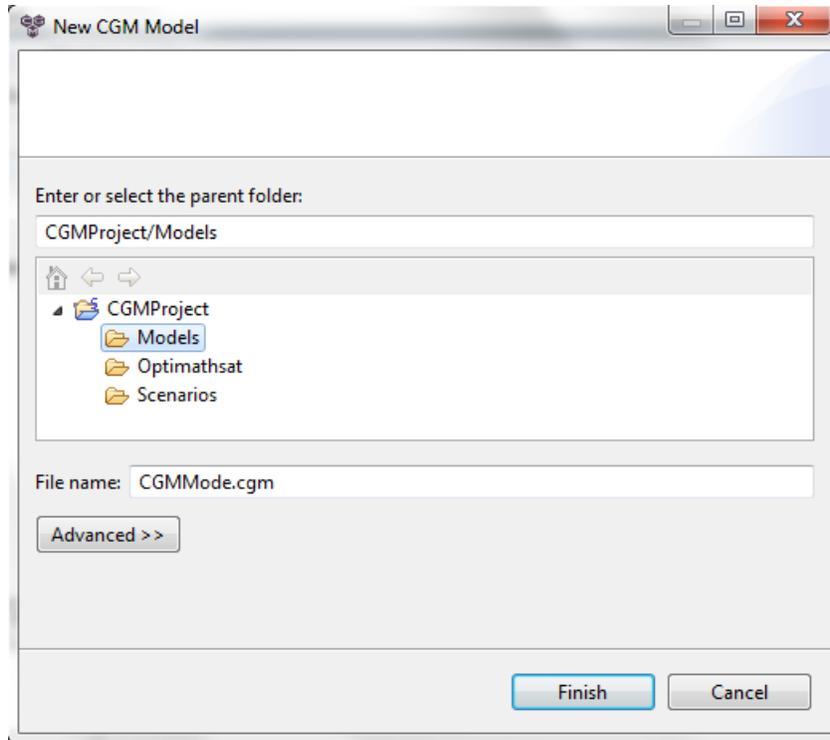

Figure 21: Creating new CGM Model wizard
- (b) A new model creation wizard will be opened (Figure 21), ensure that the selected parent folder is “Models”